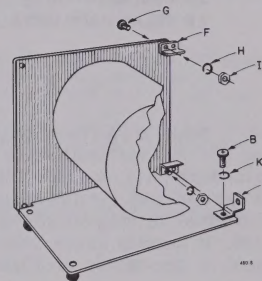
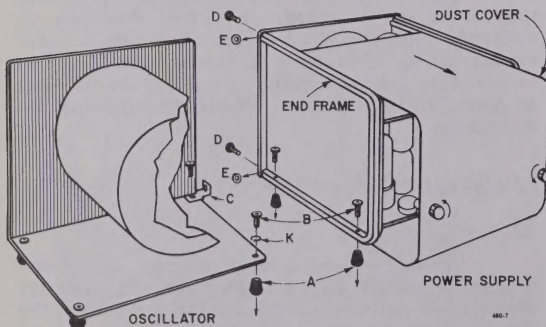

Figure 2-3.
Figure 2-2.
a. Remove the rubber feet (A, Figure 2-2) from the oscillator and power supply (inside feet only). Retain screws (B), lockwasher (K), and bracket (C).
b. On the power supply, remove and retain two screws (D). Then, remove the two 1/16-inch thick spacers (E) from between the front panel and the aluminum end frame.
c. On the oscillator (Figure 2-3), install the two brackets (F) with screws (G), lockwashers (H), and nuts (I), furnished with the power supply.
d. Install bracket (C) as shown in Figure 2-3, using one footscrew (B) and lockwasher (K) previously removed. The base of the oscillator is tapped to receive the screw.